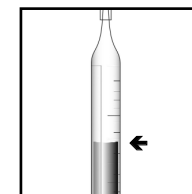

Figure 5
8. When the color of the liquid in the ampoule changes to **STRAW YELLOW**, remove the ampoule from the Titrettor. Hold the ampoule, **tip pointed upward**, and read the scale opposite the liquid level (fig. 5). Results are expressed in ppm (mg/Liter) MBT.